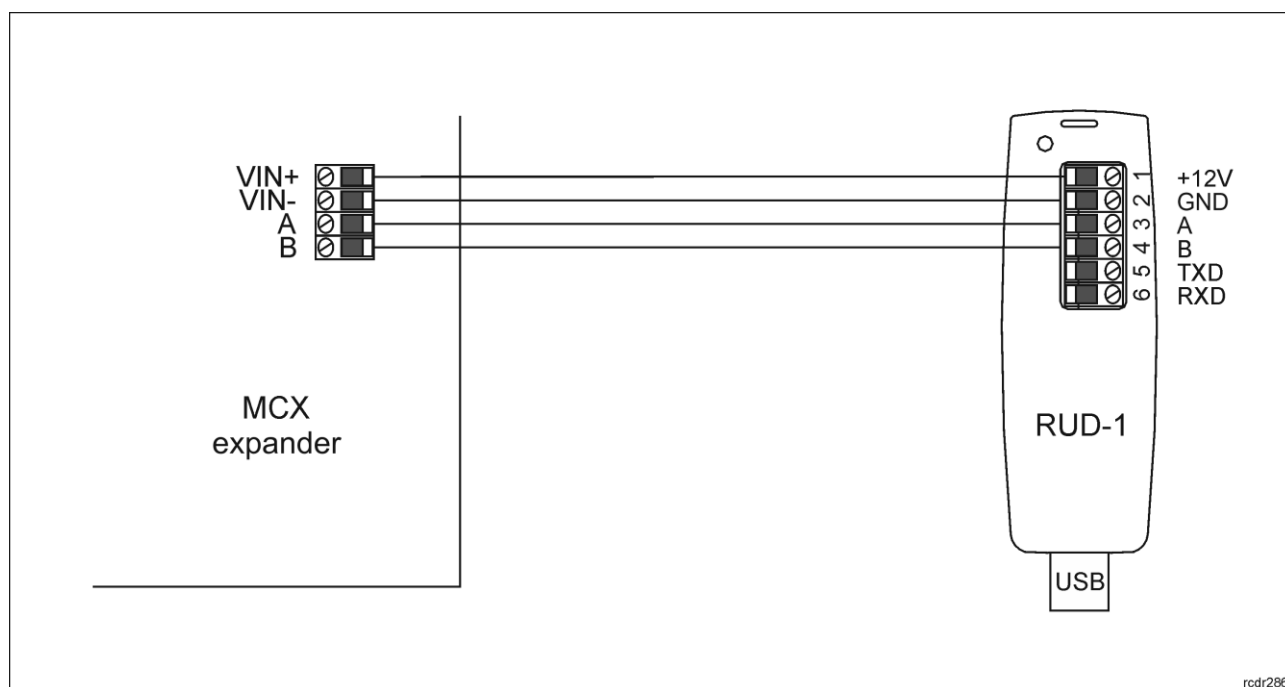

Fig. 7 Connection to RUD-1 interface (low level configuration)
1. Connect the device to RUD-1 interface (fig. 7) and connect the RUD-1 to computer's USB port.